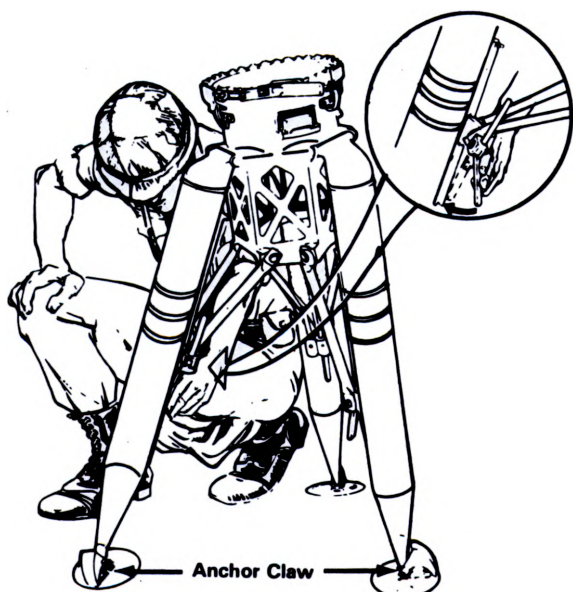

Figure 2. Disengaging the detent stop lever.
b. Starting with the rear leg, press the detent stop lever toward the leg until it disengages and release it as you pull the leg out (fig. 2). As you pull the leg out, the detent stop should engage at the first detent stop position. Do each leg in the same manner.
e. Step on each anchor claw to insure a firm base (see fig. 2). Place a stake through the hole in the foot pad if additional stability is required. Recheck your level indicators.